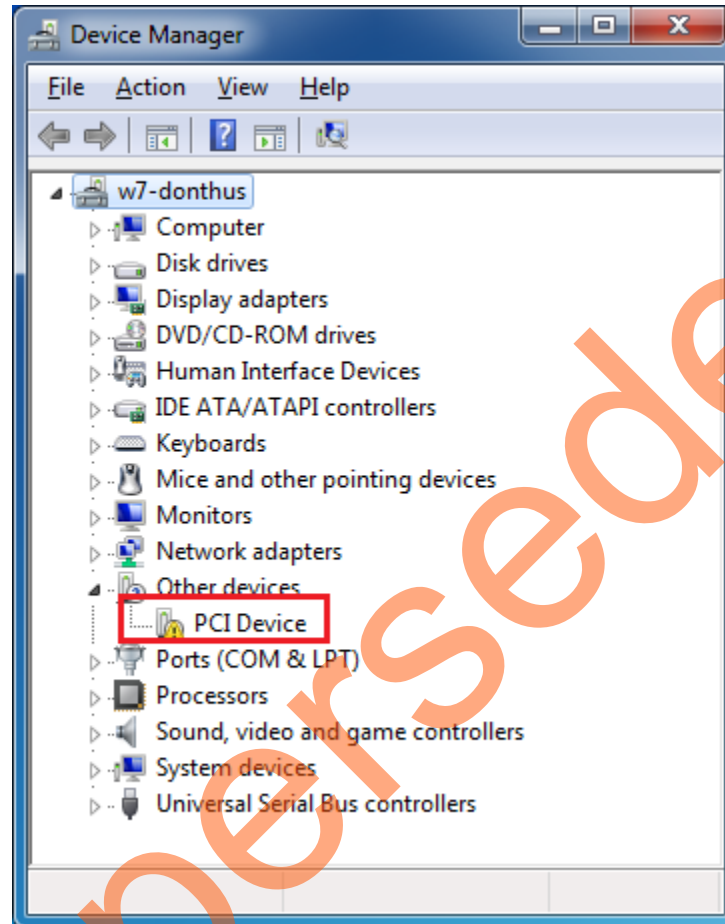

Figure 60 • Device Manager - PCIe Device Detection
1. Power on the Host PC and check the Host PC Device Manager for PCIe Device. It will be similar to Figure 60. If the device is not detected, power cycle the SmartFusion2 Development Kit and click “scan for hardware changes” in Device Manager.